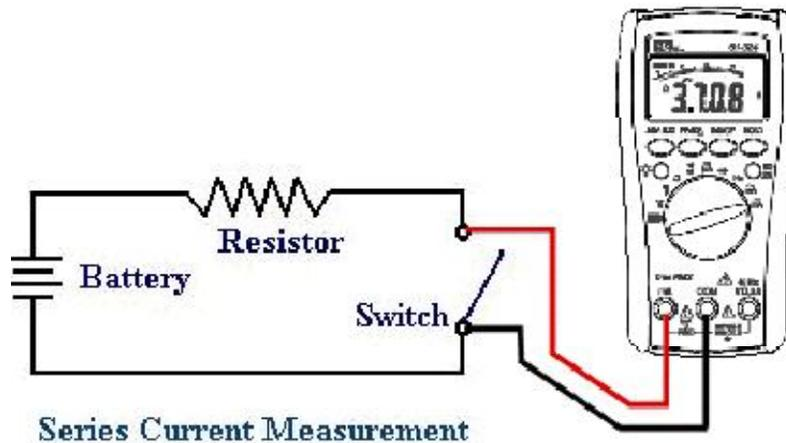

Figure 2.6: Series Current Measurement
- ✓ **CAUTION: Current is measured in series with the component under test as shown in Figure 2.6. This means that the circuit must be opened to insert the meter at the point of measurement. More so, do not make current measurements on the 10A scale for longer than 30 seconds. Exceeding 30 seconds may cause damage to the meter and/or the test leads.**